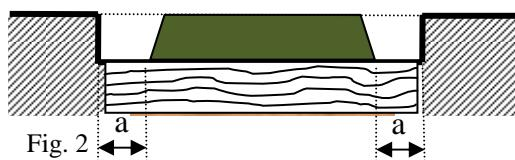

Fig. 2
- Beyond this distance, the device can be recessed (see figure 2), but not deeper than the height of the case.